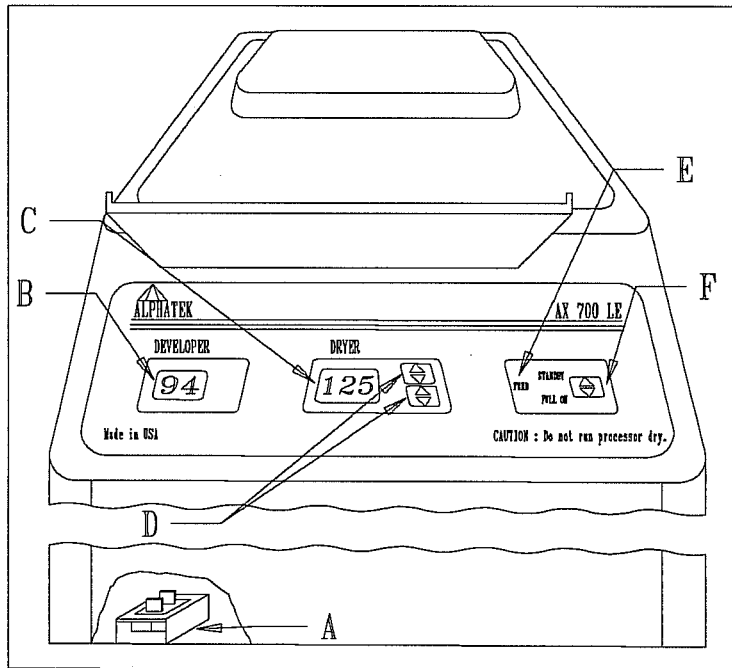

FIGURE 2-1 OPERATOR CONTROL LAYOUT
As you will note in Fig. 2-1 there are various switches and lights on the control panel. These items perform different functions as listed below:
**A.) ON-OFF BREAKER (FIG. 2-1, ITEM A)**
**B.) DEVELOPER THERMOMETER (FIG. 2-1, ITEM B)**
**C.) THERMOMETER AND THERMOSTAT DISPLAY (FIG. 2-1, ITEM C)**
**D.) DRYER TEMPERATURE CONTROL PADS (FIG. 2-1, ITEM D)**
**E.) FEED INDICATOR DISPLAY (FIG. 2-1, ITEM E)**
**F.) STANDBY/FULL-ON SWITCH (FIG. 2-1, ITEM F)**